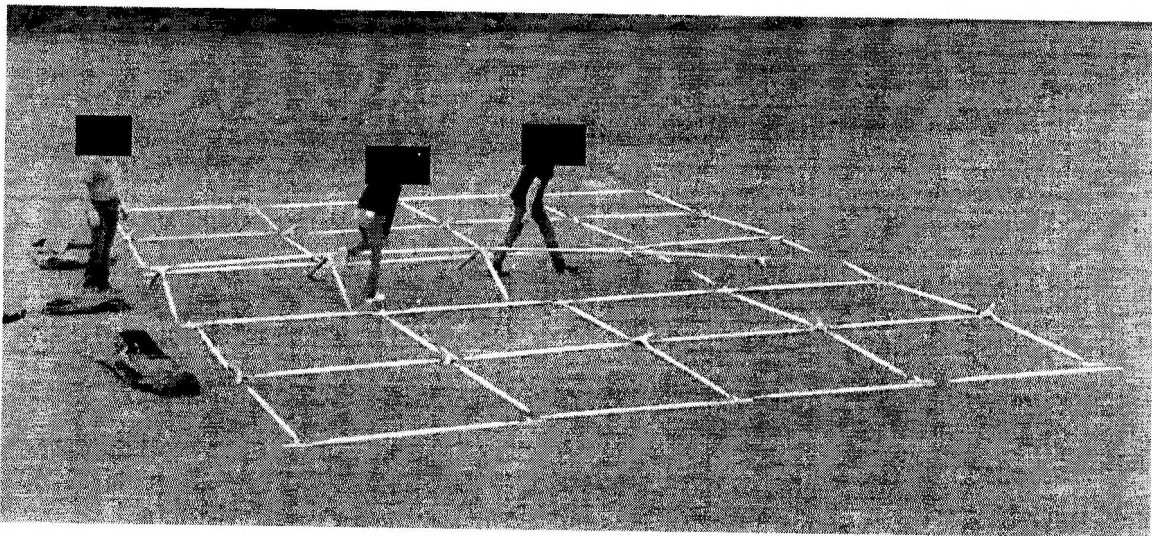

Figure 5: Frame Layout
22. The frame should be laid out as detailed in Fig 5 & 6.